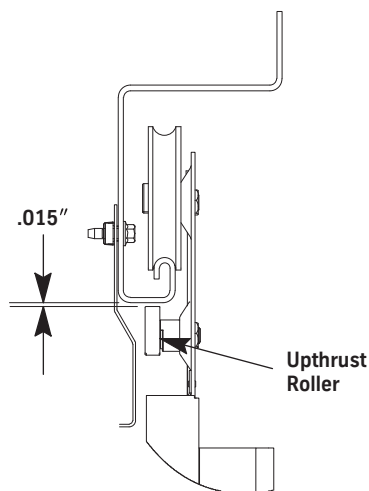

Figure 15- Adjust Upthrust Roller Clearance
2. Adjust the eccentric so that a gap of .015" is between the upthrust roller and the door track. See Figure 15.